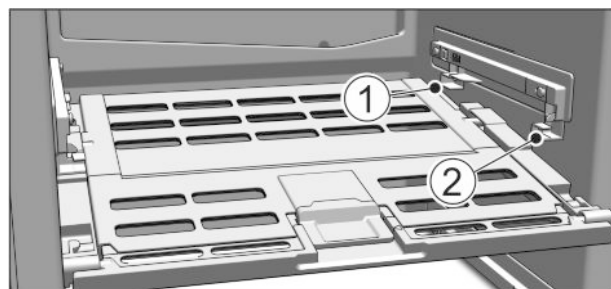

Fig. 51
- Replacing the Fruit & Vegetable safe cover: Guide the ridges on the cover into the rear brackets Fig. 51 (1) and click it into the front bracket Fig. 51 (2).